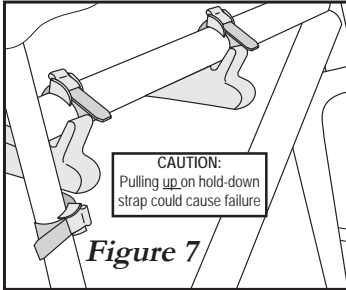

Figure 7
- Place bikes on carrier arms in bike supports, alternating direction of handlebars. Pull hold-down strap snug against **bike tube**. Rest **seat tube** against stabilizer and pull strap around tube as shown in *Fig. 7*.